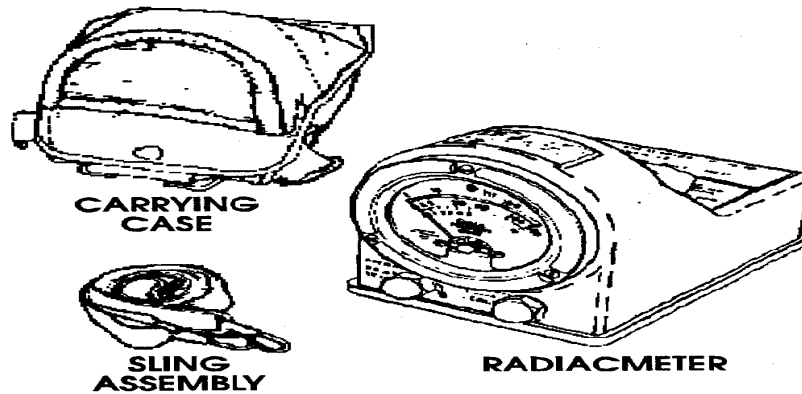

Figure 6-14. 174/PD Radiacmeter
f. The IM174 series (Figure 6-14) is a portable tactical survey instrument designed to measure gamma radiation dose rates from 0 to 500 cgyph. NBC personnel to determine gamma radiation levels from radioactive contaminants while performing survey and monitoring tasks primarily use the IM174 series. Procedures for using the IM174/PD are discussed in FM 3-3. TM 11-6665-213-12 provides further information.